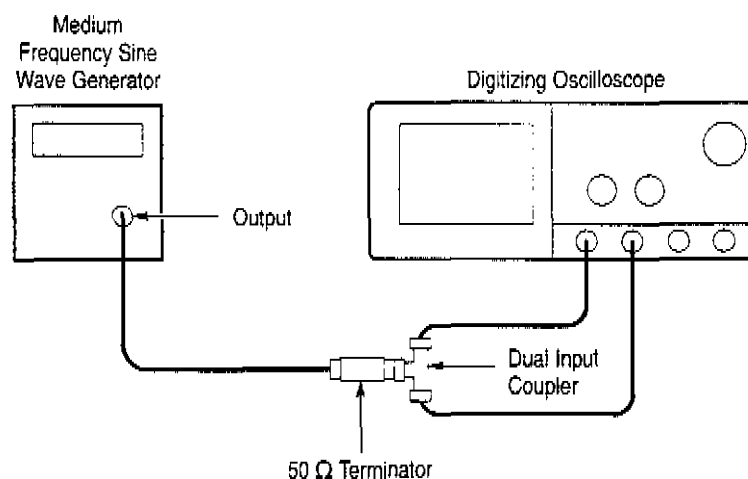

Figure 1-9: Initial Test Hookup
- Connect, through a 50 Ω precision coaxial cable followed by a 50 Ω termination, the sine wave output of a medium-frequency sine wave generator to a dual-input coupler. See Figure 1-9.
- Connect the coupler to both **CH 1** and **CH 2**. See Figure 1-9.